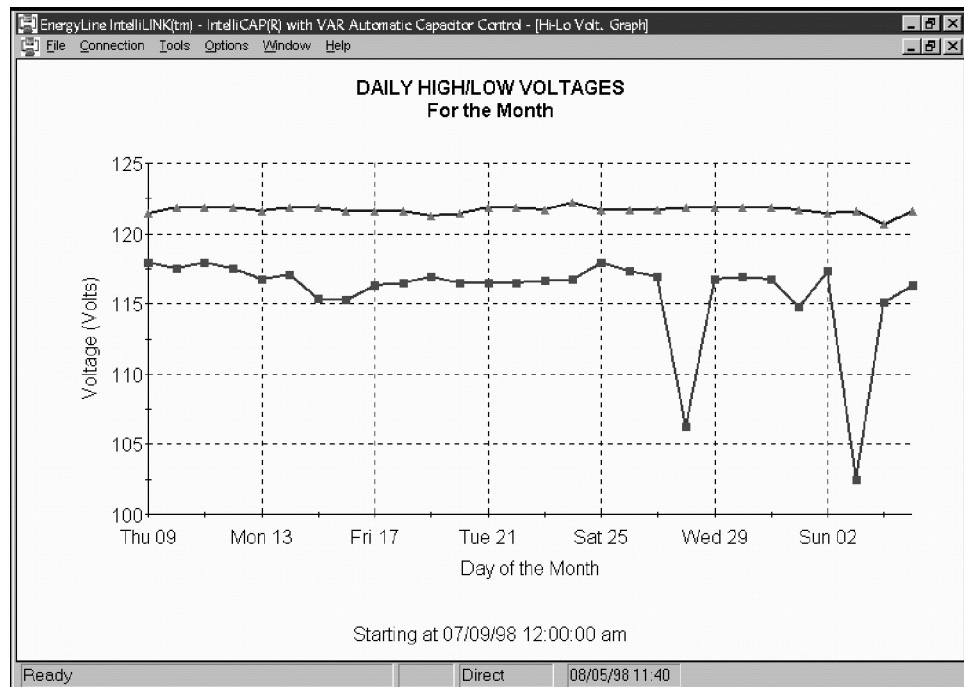

Figure 9. One of the *Data Graphing: Daily Statistic* screens.
- STEP 3.** At the *Data Graphing: Daily Statistics for Last Month Menu* screen, click on the button for the type of data to be viewed. The IntelliLink software reads the appropriate data from the control and displays a graph as a separate screen. See Figure 9.